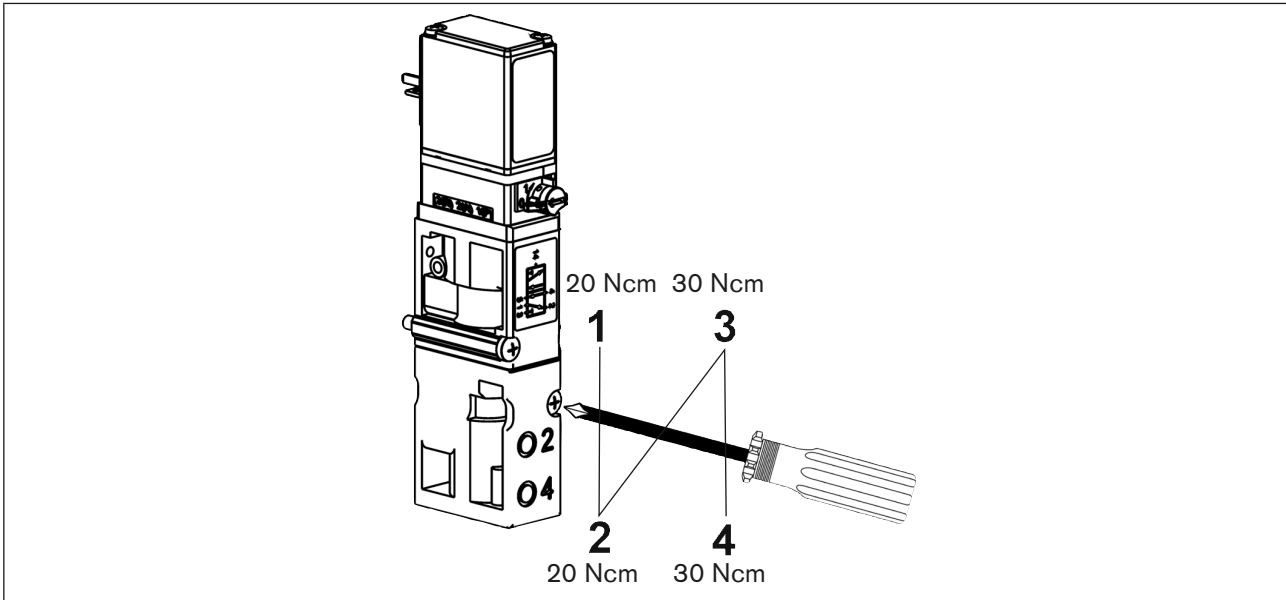

Figure 30: Tightening the screws
- Connect valve, with the cleanly inserted flange seals / O-rings, to the valve slot and tighten the screws according to the following assembly diagram (see "Figure 30: Tightening the screws").